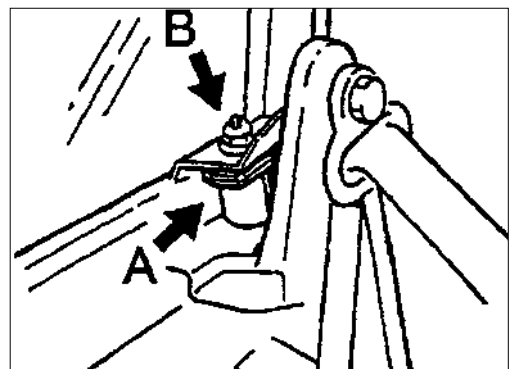

Figure 12
**4.1 Distance spacer on the B pillar (Figure 12, arrow A) loose (left or right)**
- Check distance bushing (Figure 12, pos. A) for tightness and correct seating.
- Retorque M6 nut (Figure 12, pos. B) to 9.7 Nm (7 ft/lb).